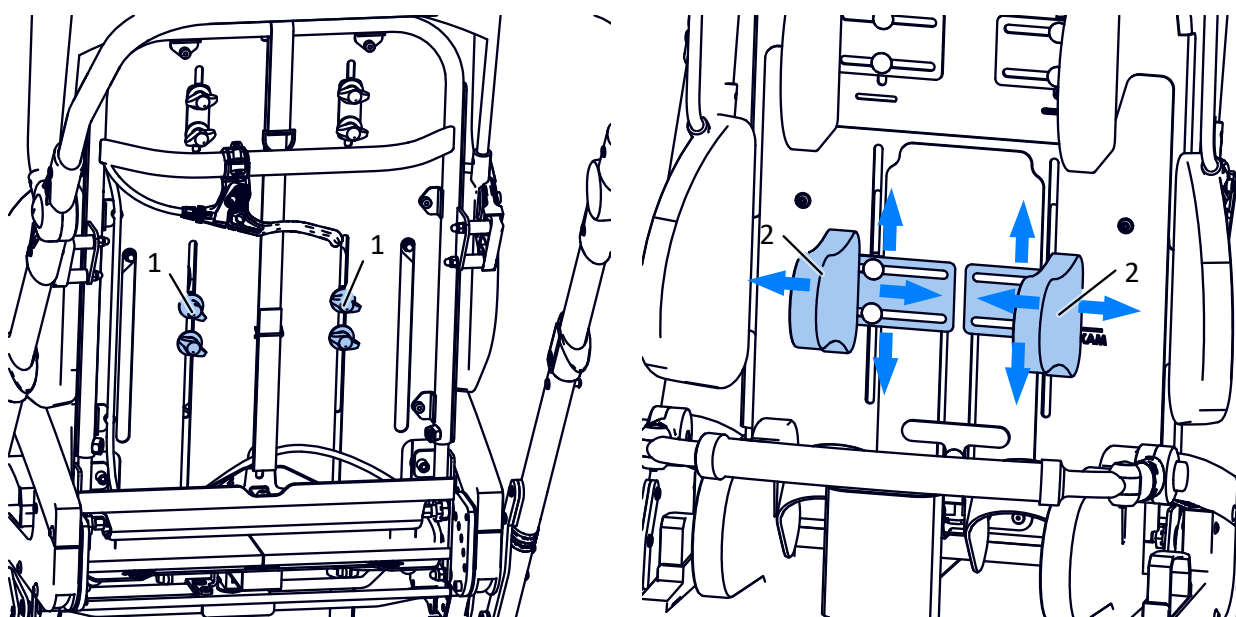

Fig. 18
In order to adjust the height of the chest supports (2) loosen the knobs (1) Fig. 18 and then adjust the position of chest supports (2). After setting the desired position of the supports, retighten the knobs (1), which block the movement of the chest support. Position of the right and the left chest support is independent, and these chest supports may be adjusted individually.